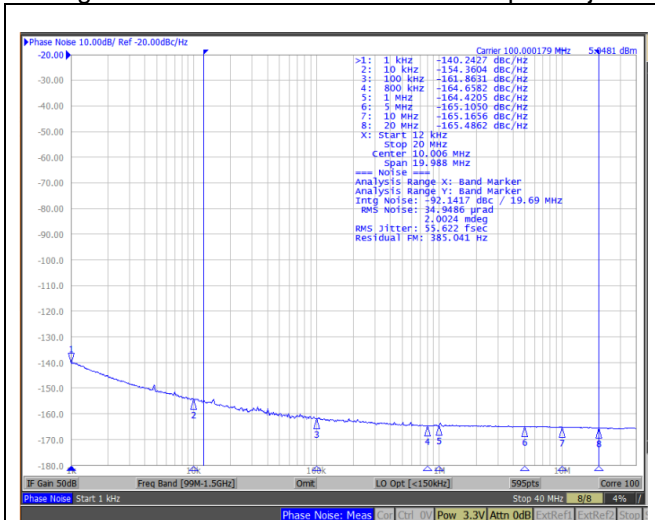
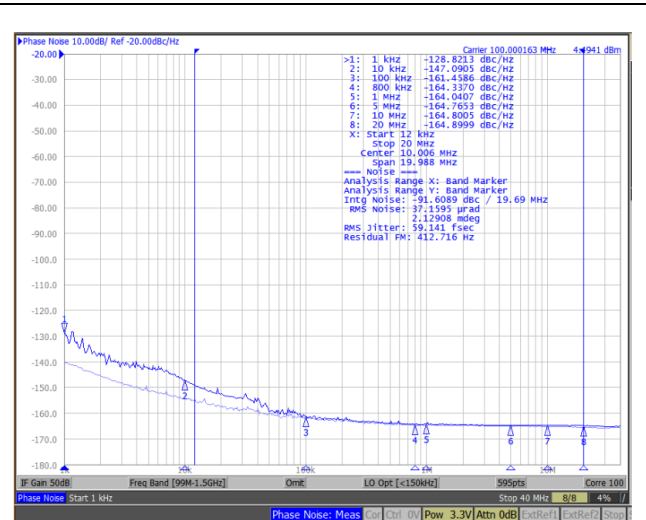

Figure 6, Reference Input Phase Noise @1.8V VDD
Figure 7, Input Phase Noise (Light Blue) and Output Phase Noise (Dark Blue) @1.8V VDD,
- With an integration range of 12kHz to 20MHz (VDD is 1.8V), the reference input has about 55.62 fs of RMS phase jitter shown in figure 6, and the output of GM51104 has about 59.14 fs of RMS jitter shown in figure 7. This results in a low additive phase jitter is less than 20.1 fs.